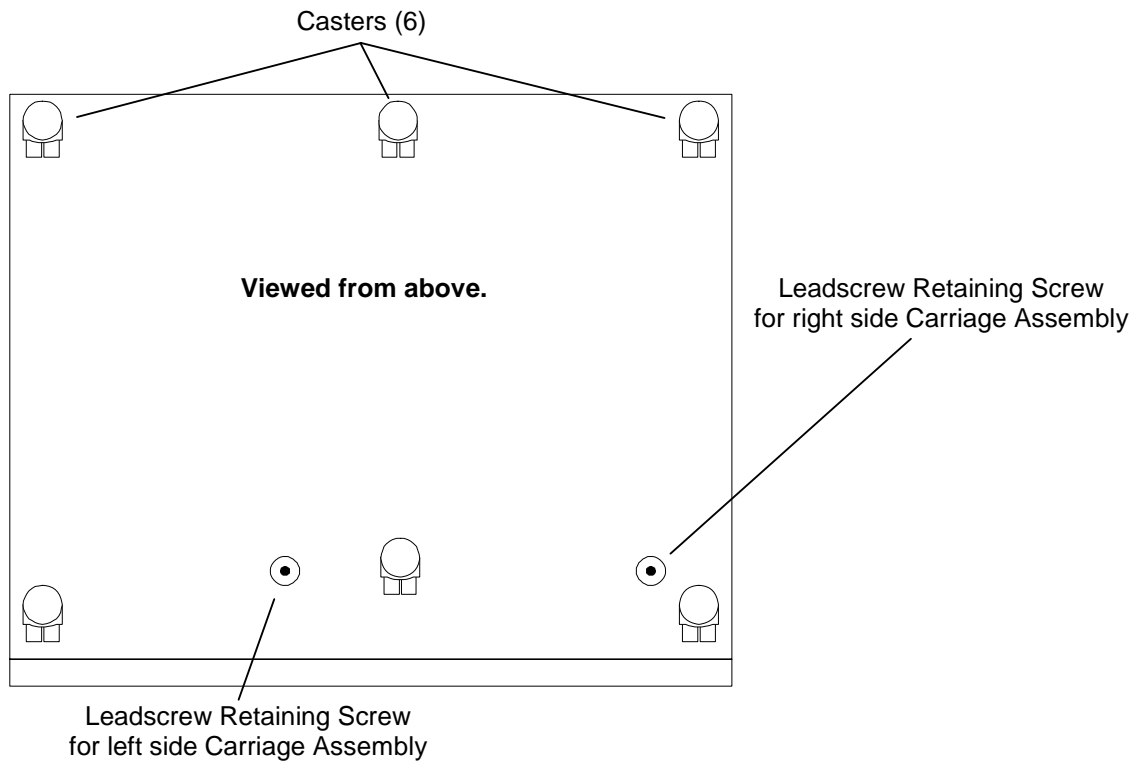

Figure 7-8 Dual Bay TLS Cabinet – Bottom View
10. Using a small mirror and a small flashlight if needed, locate the bottom Leadscrew retaining screw, corresponding to the carriage you wish to remove, on the bottom of the TLS (Figure 7-8).
11. Use a 1/8-inch L-shaped Allen wrench to remove the Leadscrew retaining screw (Figure 7-8).
16. Using a small mirror and a small flashlight if needed, locate the bottom Leadscrew retaining screw hole on the bottom of the TLS (Figure 7-8).